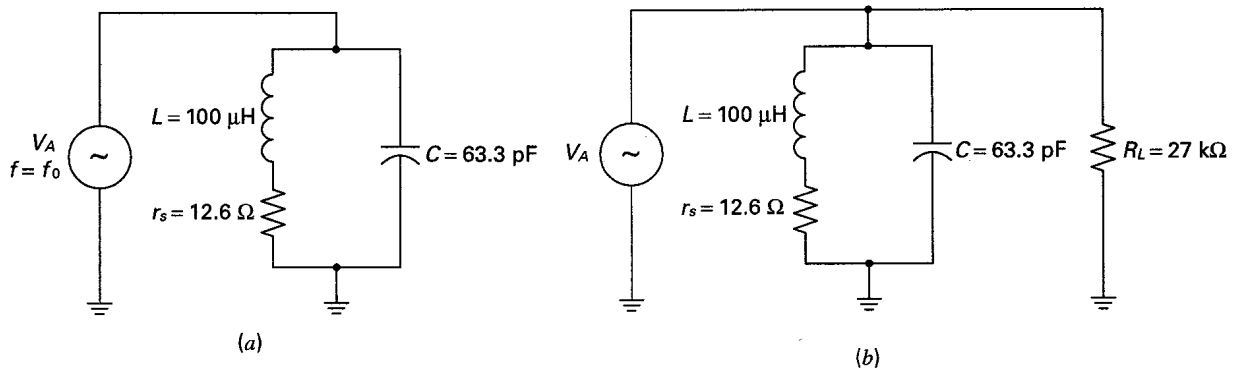

Fig. 1-10
**EXAMPLE 1.7.** In Fig. 1-10 (a), calculate  $f_0$ ,  $X_L$ ,  $Q$ ,  $Z_{\text{tank}}$ , and BW.
**EXAMPLE 1.8.** Figure 1-10(b) shows the same LC tank circuit as in Fig. 1-10(a). However, a 27 kΩ load has been placed across the tank. Calculate  $Q_{\text{ckt}}$  and BW.
As you can see, the addition of a load resistor  $R_L$  increases the bandwidth. Without a load present in Fig. 1-10(a), the bandwidth was only 20 kHz. However, with the presence of a 27 k $\Omega$  load in Fig. 1-10(b), the bandwidth was broadened to 113.6 kHz.